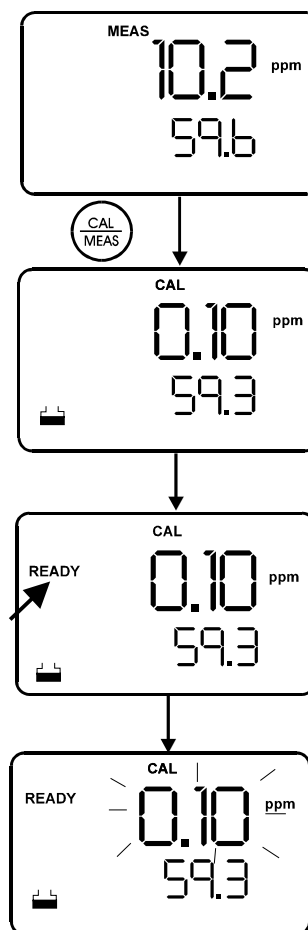

Figure 5: 1st-point calibration
6. Press **ENTER** key to confirm your first point calibration (see Figure 5). After calibration, the display will show the next calibration option, i.e. **1.0 ppm**. Proceed by rinsing the electrode with deionized water before placing it in the next calibration standard i.e. 1.0 ppm.